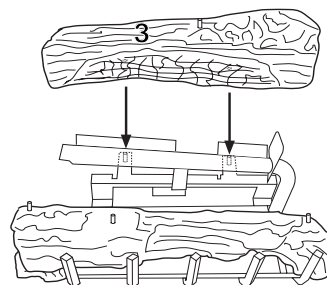

Figure 46 - Installing Log No. 3
3. Place logs #3 (rear log) onto pins on rear of grate as shown in Figure 46.